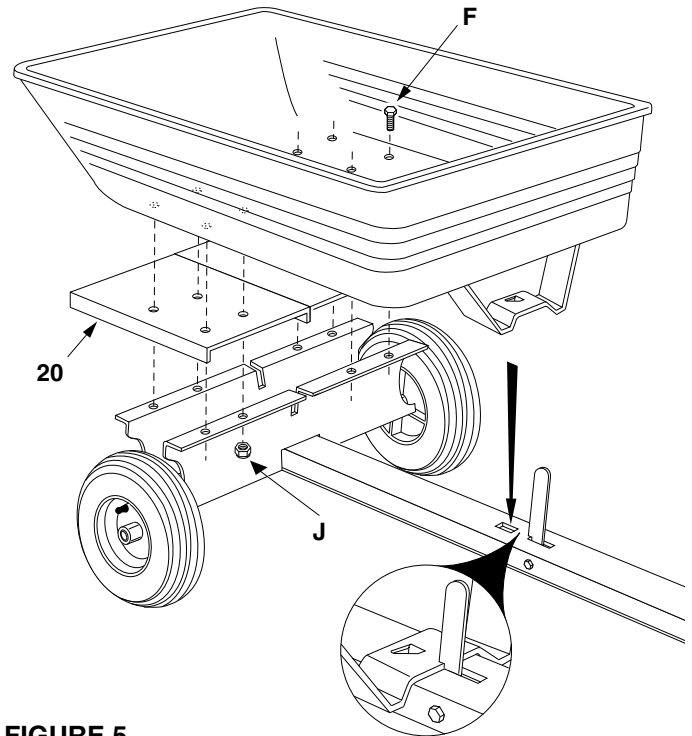

FIGURE 5
- Place the cart bed braces (20) and the cart tray onto the wheel support. Secure latch stand bracket underneath the tongue's latch lock lever. See figure 5.
- Assemble the cart tray and cart bed braces to the wheel support using eight 5/16" x 3/4" hex bolts (F) and 5/16" nylock nuts (J). Tighten nuts after all bolts are in place. **DO NOT OVERTIGHTEN.** See figure 5.